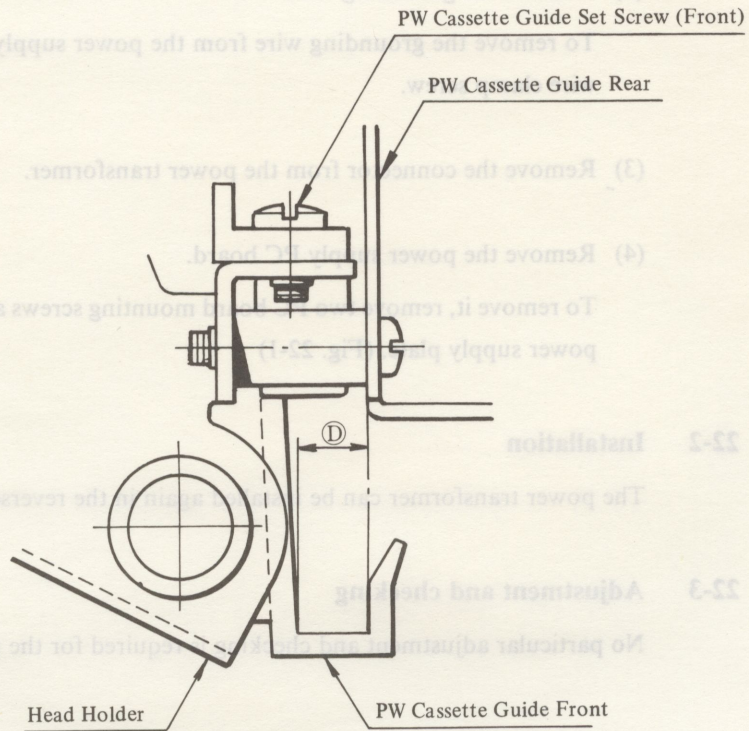

Fig. 21-2
(1) PW cassette guide position
Move crosswise the PW cassette guide front and position it so that gap between the character element and the PW cassette is parallel, and that distance ① is $6.6^{+0.3}_0$ mm. (Fig. 21-2)